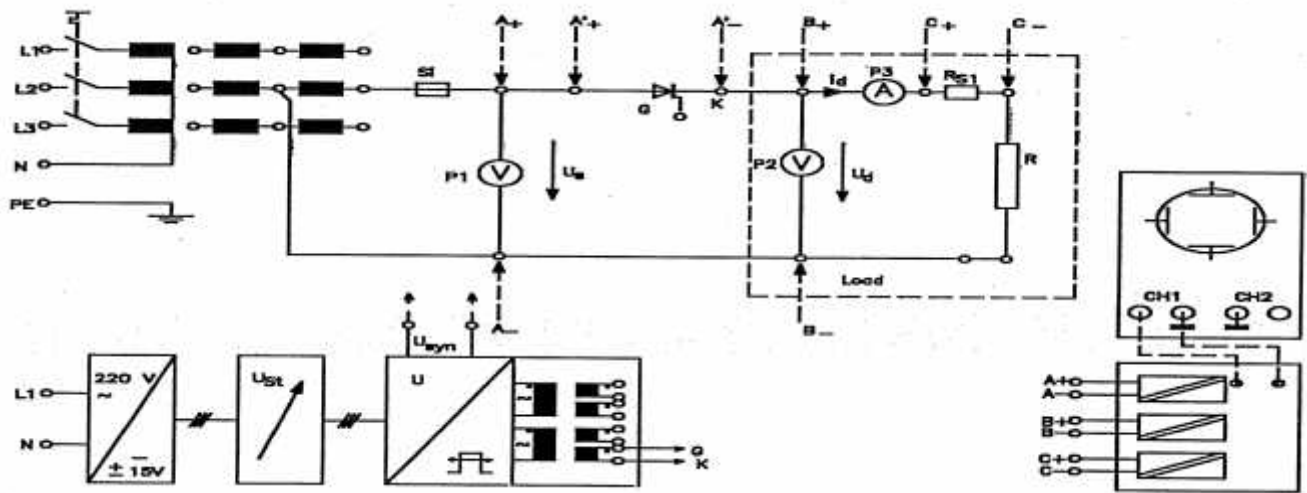

Figure 1 Single pulse controlled rectifier
- Connect the power circuit as shown in Figure 1, while using the supply voltage one at a time: 45V, 90 V and a load resistance of 33 Ω, (three 100 Ω resistance connected in parallel)
- Connect to the power circuit shown in Figure 1, a load made up of a resistance of $33\ \Omega$, (three $100\ \Omega$ resistance connected in parallel) in series with an inductance of $50\ \text{mH}$.
- Connect the power circuit as shown in Figure 1 with a freewheeling diode, while using the supply voltage one at a time: 45V , $90\ \text{V}$ and a load resistance of $33\ \Omega$, (three $100\ \Omega$ resistance connected in parallel)
- Connect to the power circuit shown in Figure 1, a load made up of a resistance of 33Ω , (three 100Ω resistance connected in parallel) in series with an inductance of 50 mH .